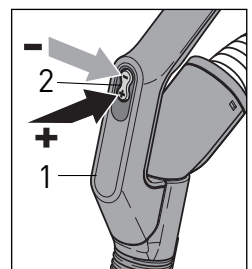
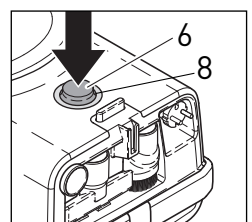

Figure 3
Figure 4
3. Grip the handle of the hose (1) with your thumb over the power control rocker (#2, figure 3).
5. If the canister powers up as soon as you plug it in, note that the blue LED light (8) around the on/off button (6) will pick up speed as the suction on the canister increases (figure 4). It will reach full power in a few seconds.
6. If the canister does not power up as soon as you plug it in, gently press the on/off button on the canister (6) with your hand or foot.
7. Press the (-) on the power control rocker (2) to decrease the suction or the (+) to increase the suction on the canister (figure 3). You can press the rocker several times or hold it down steadily until you reach the suction desired.
8. If you continue to press the (-) you will eventually put the canister in stand-by mode. Stand-by mode means that the canister is plugged in, but not running. Note that when the canister is in stand-by mode, the blue light (8) around the on/off switch on the canister blinks back and forth.
10. **BEFORE PROCEEDING WITH FURTHER ASSEMBLY AND USE**, turn off the vacuum with the on/off button on the canister (6) AND unplug the unit from the wall outlet.